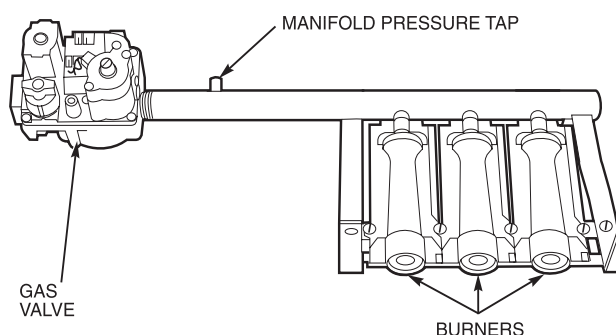

Fig. 21 - Burner Tray Details
10. Slide the burner tray out of the unit (Fig. 21).